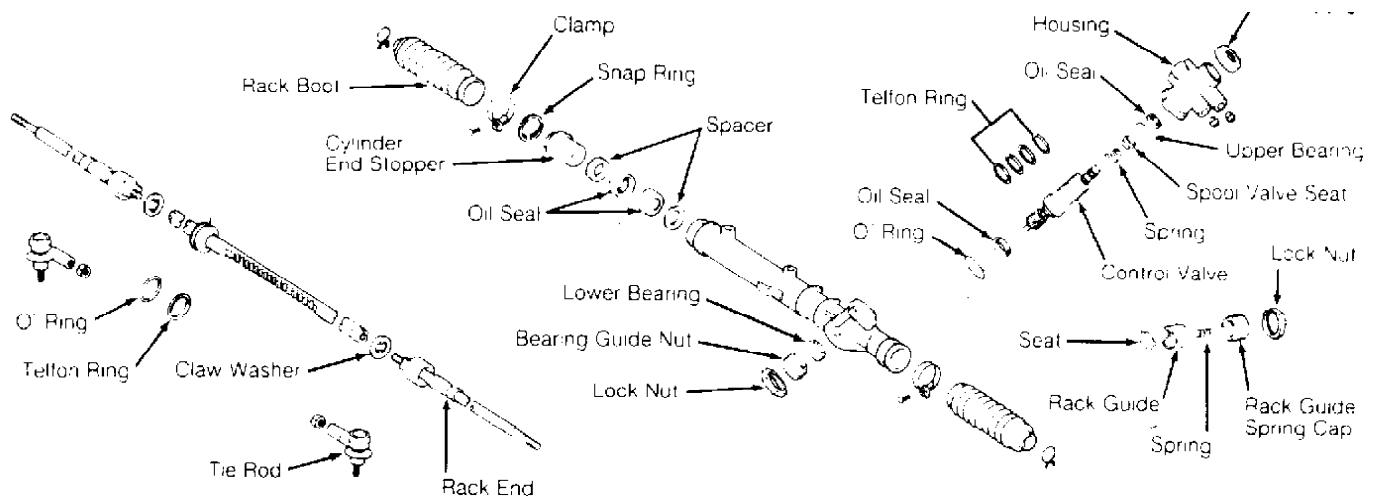

Fig. 6: Exploded View Of Power Rack & Pinion Steering Gear Components
1) Using Rack Housing Stand (09612-00012), mount steering gear in vise. Remove left and right turn tubes. Mark and remove tie rod ends. Remove boots. See Fig. 6.